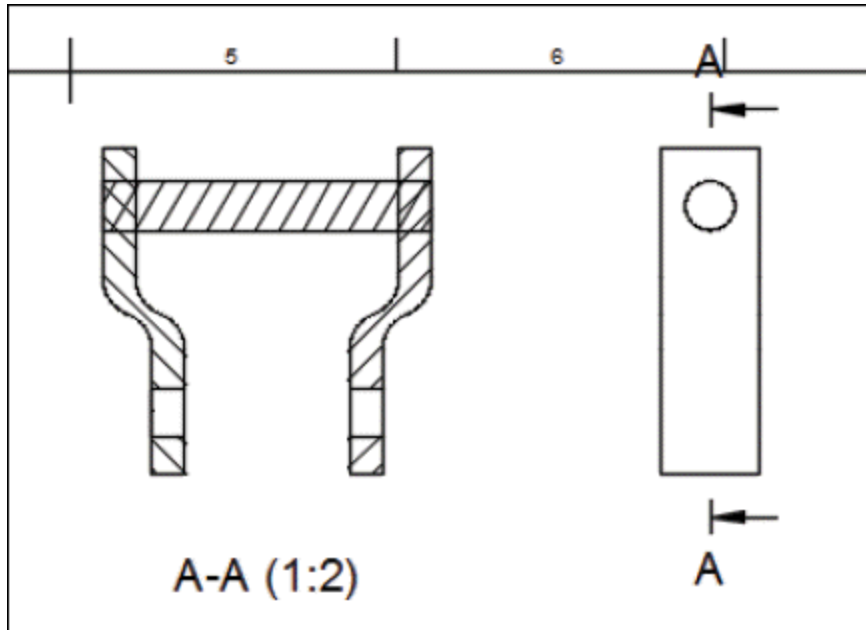

Figure-16. Section View created
- Place the section view at desired location/side of base model and click on **OK** button from **DRAWING VIEW** dialog box. The section view will be created on drawing sheet; refer to Figure-16. Note that arrows of section view will be modified automatically based on placement location of section view.